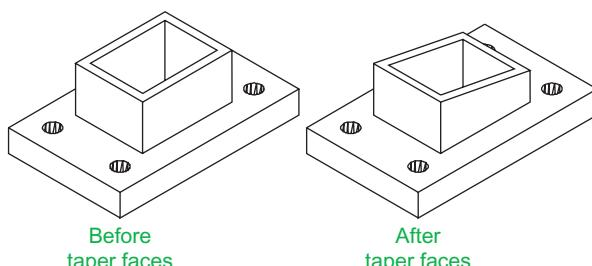

Fig. 18.10 Fifth example – **Taper Faces** tool
Fifth example – Taper Faces tool (Fig. 18.10)
1. Construct the 3D model as in the left-hand drawing of Fig. 18.10. Place in **ViewCube/Isometric**.
(Fig. 18.10).